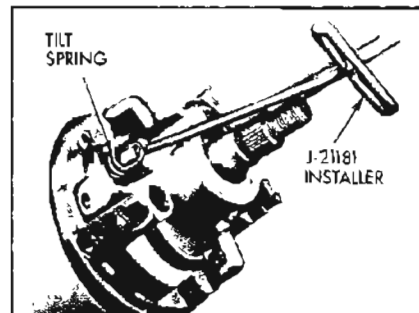

Figure 8-92—Installing Tilt Springs
9. Install the upper ends of the two tilt springs using Tool J-21181 Spring Installer. See Figure 8-92.